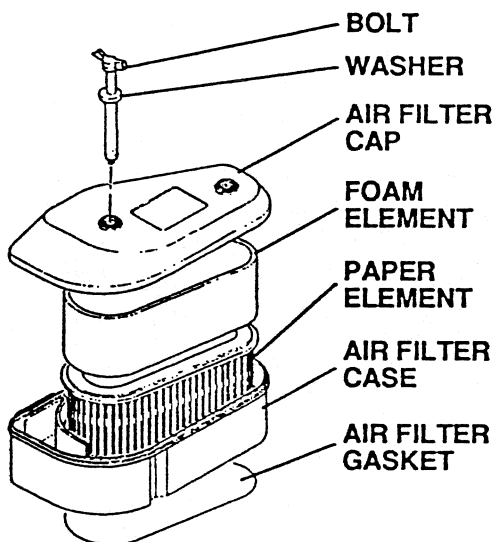

FIGURE 16
7. Clean Air Cleaner Element (Fig. 16)